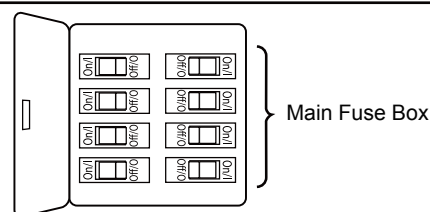

Figure 1
To avoid possible fire or shock, be sure electricity is turned off at the main fuse box before hanging. (Figure 1)
1. To set the code on receiver unit, slide dip switches to the same positions as set on the remote. (Figure 1)